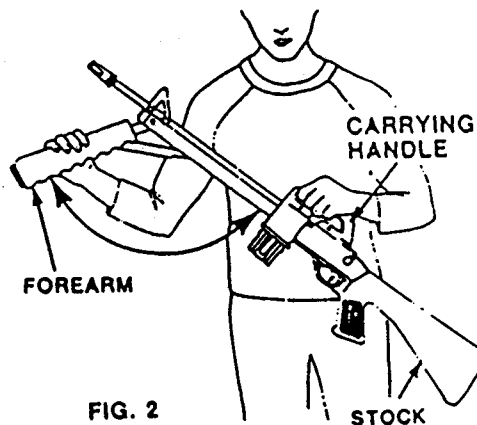

FIG. 2
- B. Open the forearm all the way until it stops. (Fig. 2) Be sure to hold on to the forearm firmly as you open it. It could spring back into the closed position. Place your hands in the same positions shown in Fig. 2 in order to avoid being pinched should you lose hold of the forearm.